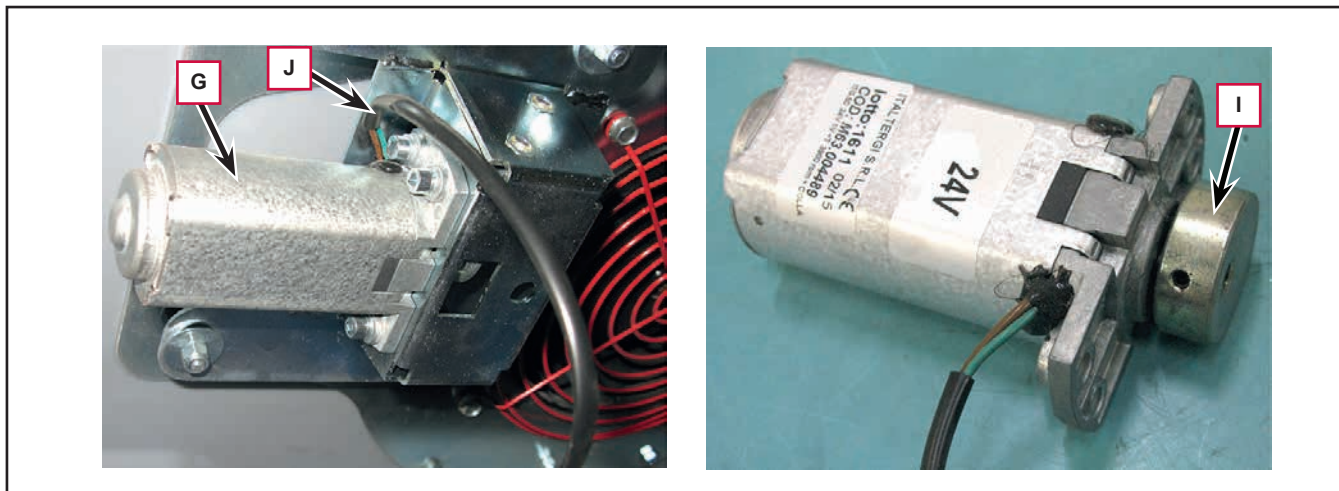

Figure 8
- When reinstalling the eccentric cylinder (I, Figure 8), respect the required position of the grub screw fastening surface
- On reassembly, position the filter shaker motor (G) with the cable entry (J) on the upper side, as shown in the figure.